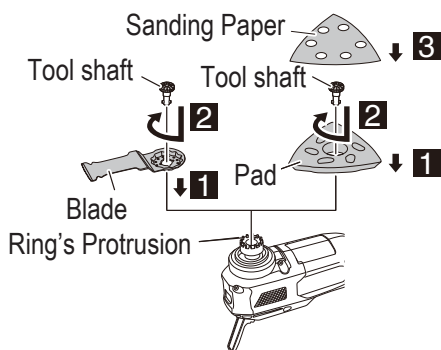

Fig. 11
- (3) Attach the application tool to the attachment ring, making sure the tool's hole is fitted to the ring's protrusion. The angle of attachment for the application tool can be set in 30° increments. (**Fig. 11**)
- (4) Firmly insert the tool shaft while rotating it clockwise. (**Fig. 11**)
- (6) Align the holes when sticking the sanding paper to the sanding pad. (Fig. 11)